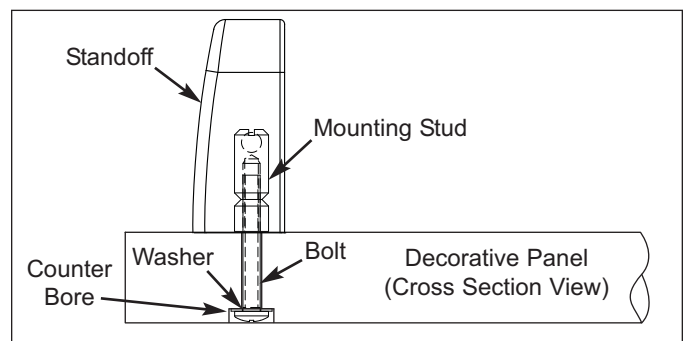

Figure 6. Decorative Panel Prep for Handle
2. Counter bore 5/8" holes to 5/32" deep so that you can completely recess the head of the bolt and washer (See Figure 6).
3. Insert appropriate length bolts with washer(s) through holes and thread the mounting studs onto the bolts (be sure that the bolt is not bottomed out in the mounting stud) and tighten (See Figure 6).